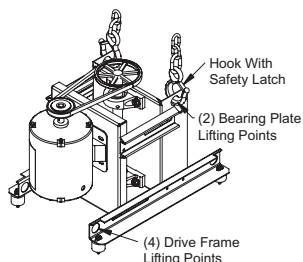

Figure 2
4. Use lifting points on the drive frame to lift and place the unit on top of roof curb. See Figure 2.